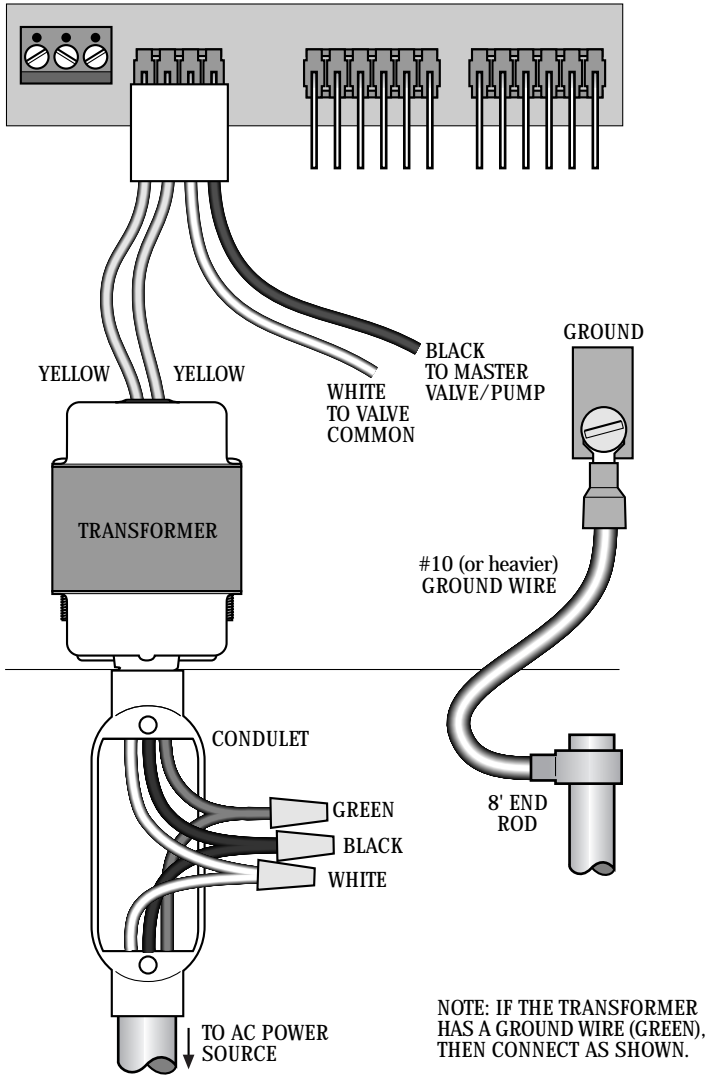

FIGURE 1. POWER AND FIELD WIRING
1. Refer to Figure 1 - Power and Field Wiring.
If there is only one clock controlling the master valve, then wire the controller as shown in Figure 1.
If there is only one clock controlling the pump and if the pump has a 24 VAC starting relay, then wire the MV and COM lines of the controller to the pump's relay similar to the connections made for the master valve in Figure 1.